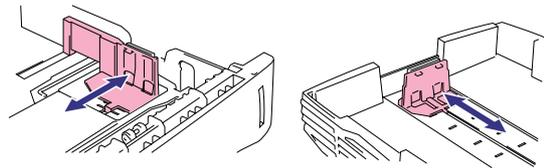

Fig. 2-9
- (1) Pull the paper cassette completely out of the printer.
- (2) Slide the paper guides to the paper size you want until they snap into a slot. (Fig. 2-9)